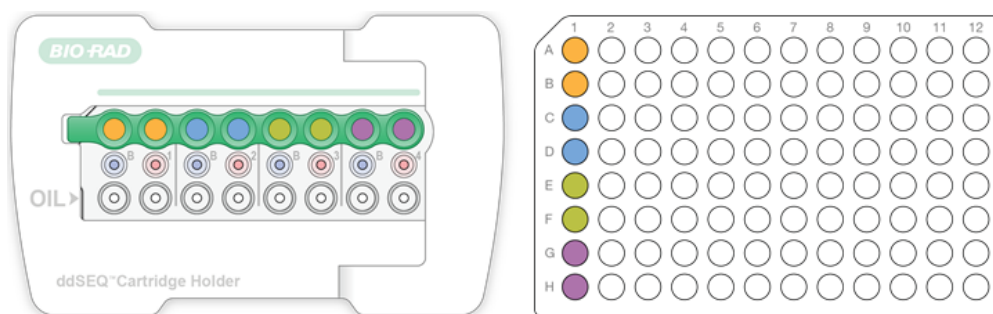

Fig. 11: Transferring encapsulated samples
- a. Slowly dispense the encapsulated sample into the corresponding column of the plate, as shown in Fig. 11 on page 41. Dispensing should take approximately 5 sec.